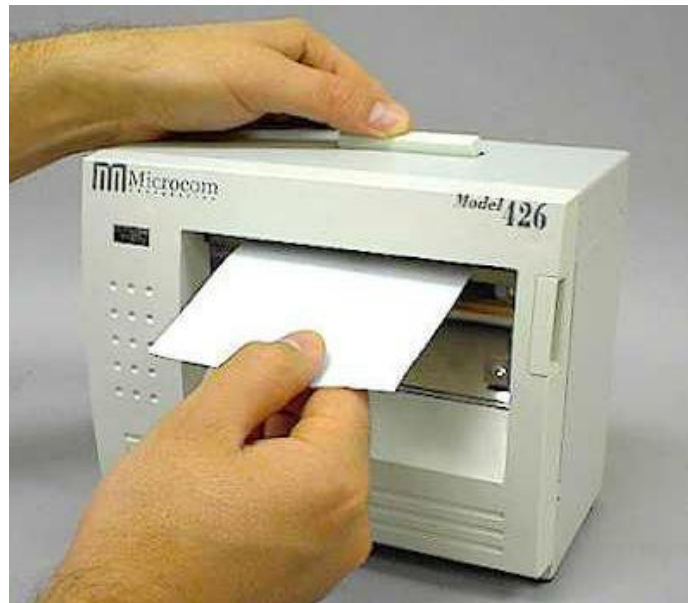

Figure 14 Insertion of Thermal Cleaning Card
3. While pushing down on the *Head Lift Lever*, insert the card into the front of the printer between the print head and the peel edge (See Figure 14).